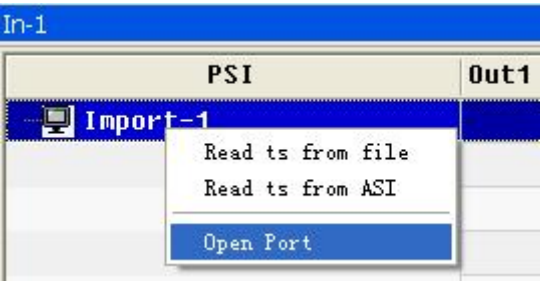

figure 3-29
- 2、 if import is green,it show the port is opened;if the is grey,it show the import need to be opened. right key In-1,select'open port',such as figure3-29